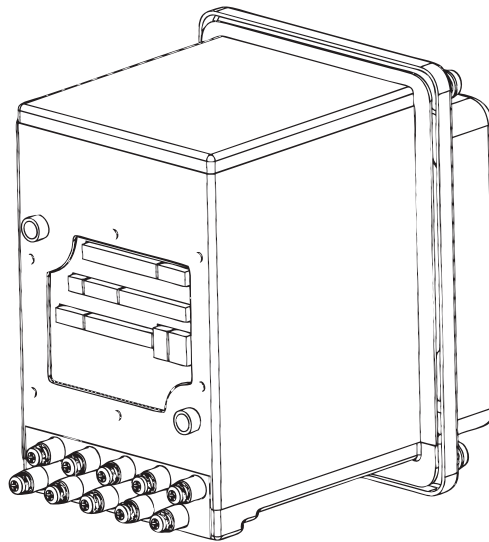

Figure 12.8: Switchboard Meter Back Showing Connectors
2. Slide the meter into the case and secure it by sliding the chassis levers until they snap into place. Connectors for the following are located on the back of the meter. The connectors automatically plug into the available connectors on the mounting board (see Figure 12.8).
The meter snaps into place and is secured with levers and screws. All input and output connections are made automatically as the meter is installed. (Refer to Section 12.4 and Figure 12.8.)